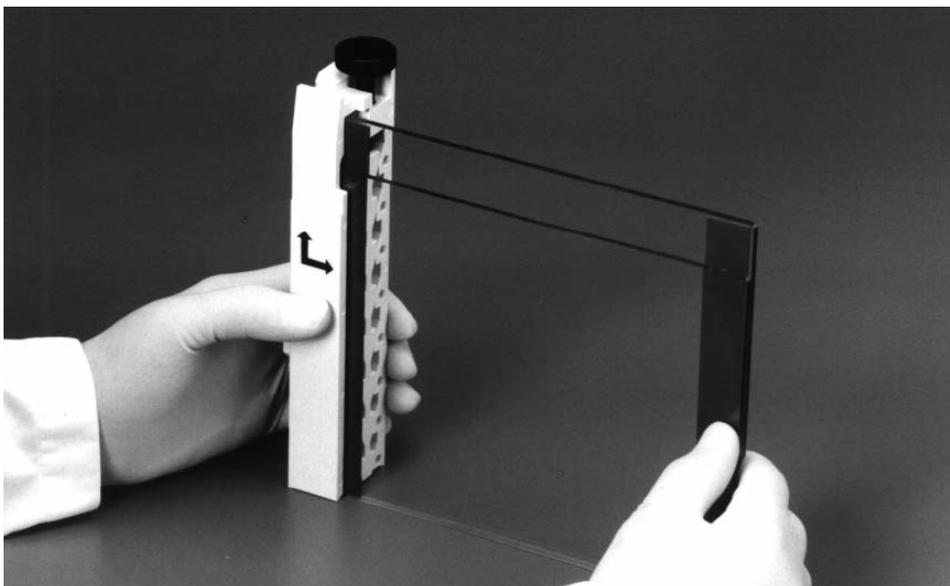

Fig. 7.3. Attaching the clamps to the glass plate assembly.
4. Grasp the gel sandwich firmly. Guide the left and right clamps onto the sandwich so that the long and short plates fit the appropriate notches in the clamp (Figure 7.3). Tighten the screws enough to hold the plates in place.